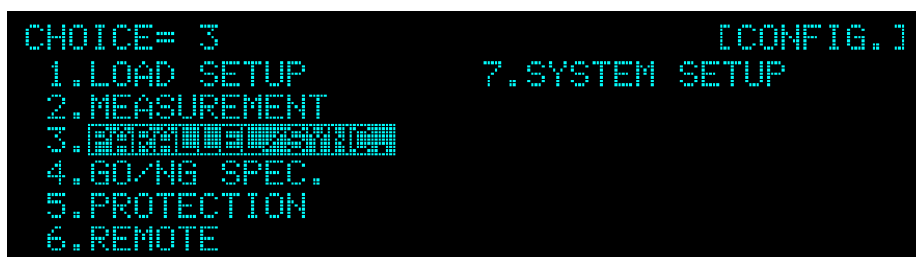

Figure F-7 Entering SYNC. Screen
2. Press CONFIG on the front panel and select "3. PARALLEL/ SYNC." (or press the numeric key "3") and Enter as Figure F-7 shows.